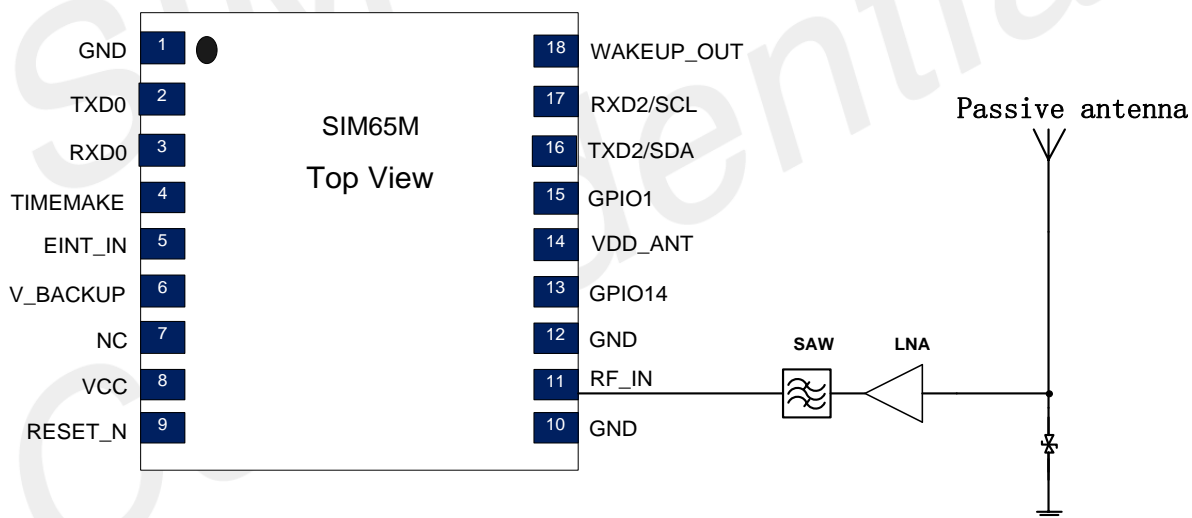

Figure 14: SIM65M Series passive antenna design (with external LNA and SAW)
For better performance with passive antenna designs user can use an external LNA to increase the sensitivity up 3~4 dB. Please see Figure 14.
- Refer to Figure 14, the additional use of surface acoustic wave filters (SAWs) can effectively suppress out-of-band interference and improve the signal-to-noise ratio.